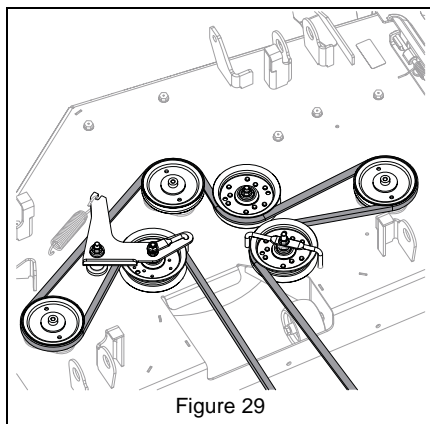

Figure 29
1. Install deck drive belt. See Figure 29.